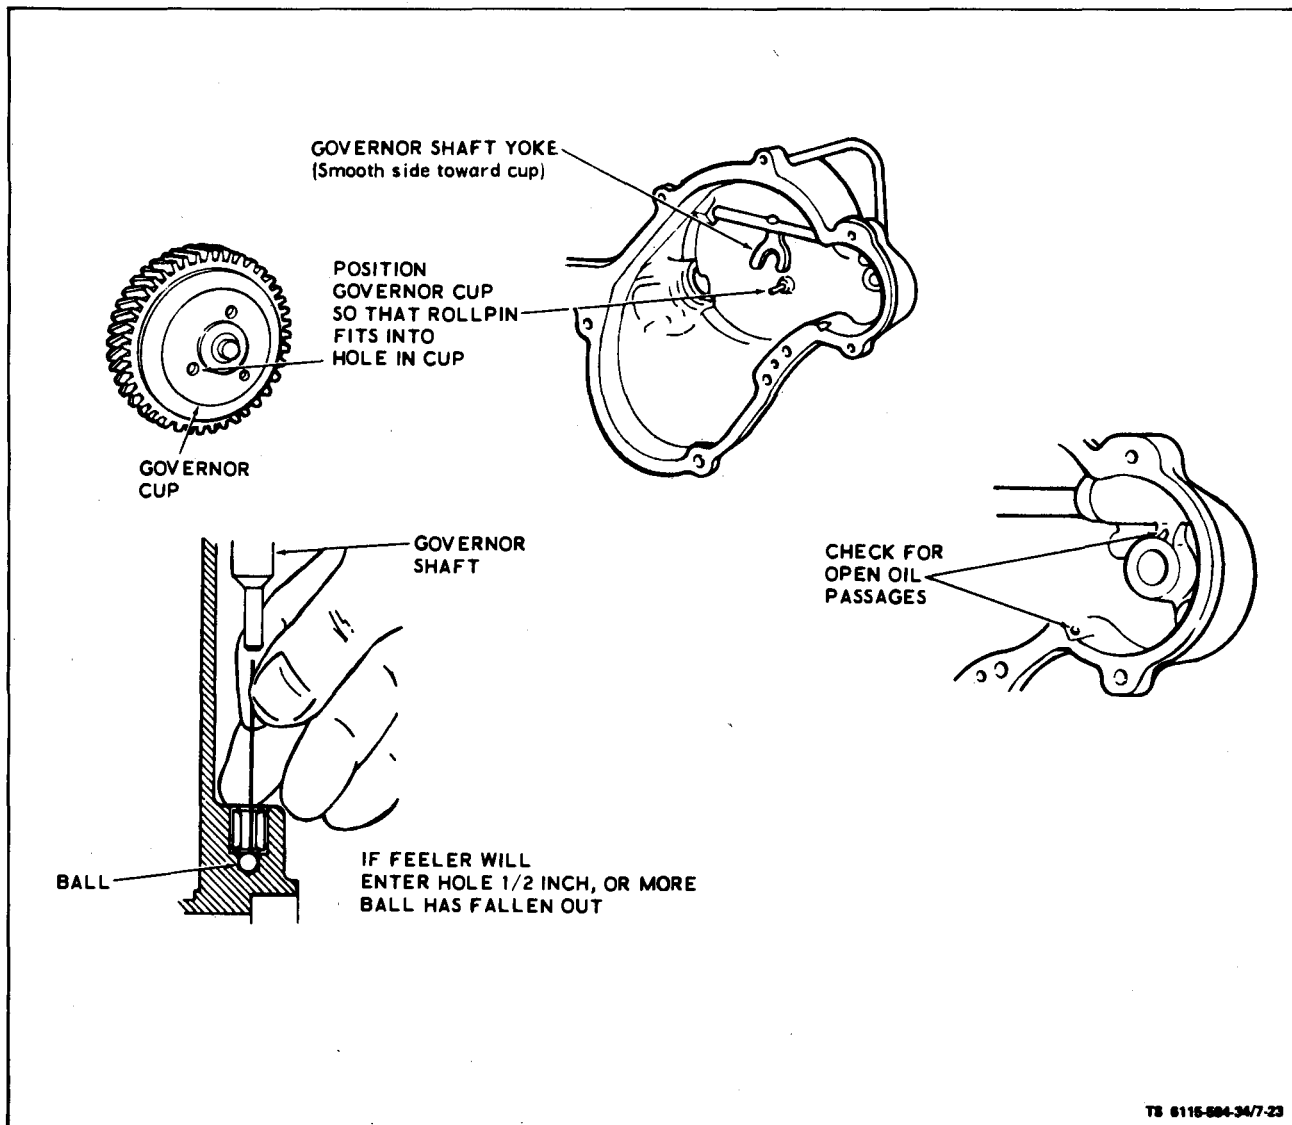

Figure 7-23. Gear Cover Inspection
(1) Work governor shaft to check for binding and see that governor-shaft-end-thrust ball is in place (see figure 7-23).
(3) Turn governor cup so the stop pin (figure 7-23) in the gear cover will fit into one of the holes in cup surface. Measure the distance from end of roll pin to mounting face of the cover. It should be  $25/32$  inch. If it is not, replace pin. Pin should be positioned with open end facing crankshaft seal.